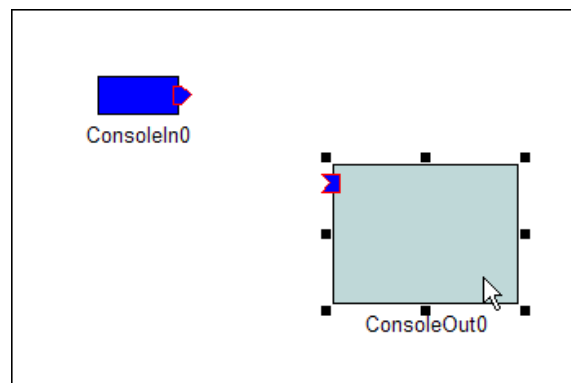

Fig. 4.11: Resizing a component
**Resizing components** A component can be resized by, after selecting it, dragging one of the black handles at each of its corners (Figure 4.11).